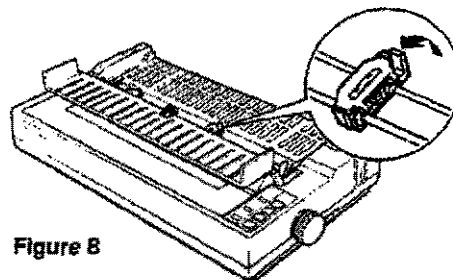

Figure 8
4. If the paper does not lie flat against the carriage, release the right sprocket lock lever (pull it forward) and slide the sprocket unit to a position where the paper is straight and has no wrinkles, then push the sprocket lock lever back into place (Figure 8).